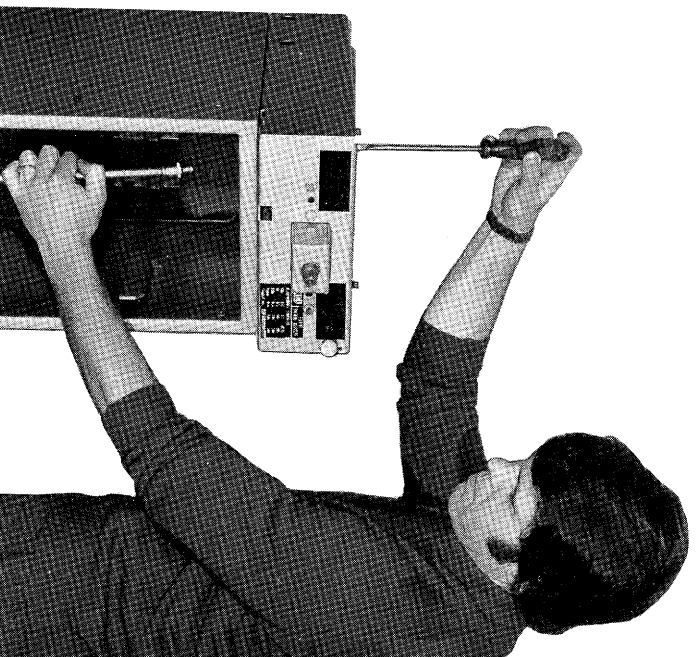

Fig. 9
5. Fit the top cover in place by means of 2 screws M 6 x 10 with nuts. To hold the nut, use a 10 mm box spanner with a long shaft. See fig. 9.